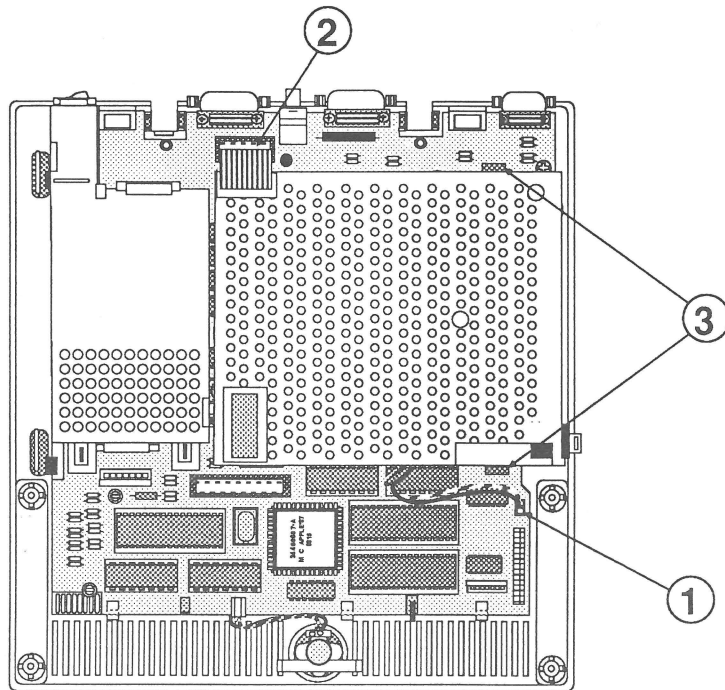

FIGURE 5
2. Lift the keyboard up and forward, and disconnect the eject button cable from logic board connector J7 (Figure 5, #1).
3. Disconnect the disk drive cable from logic board connector J8 (Figure 5, #2).
5. Remove the two Phillips screws (Figure 5, #3), one on each side of the drive shield.